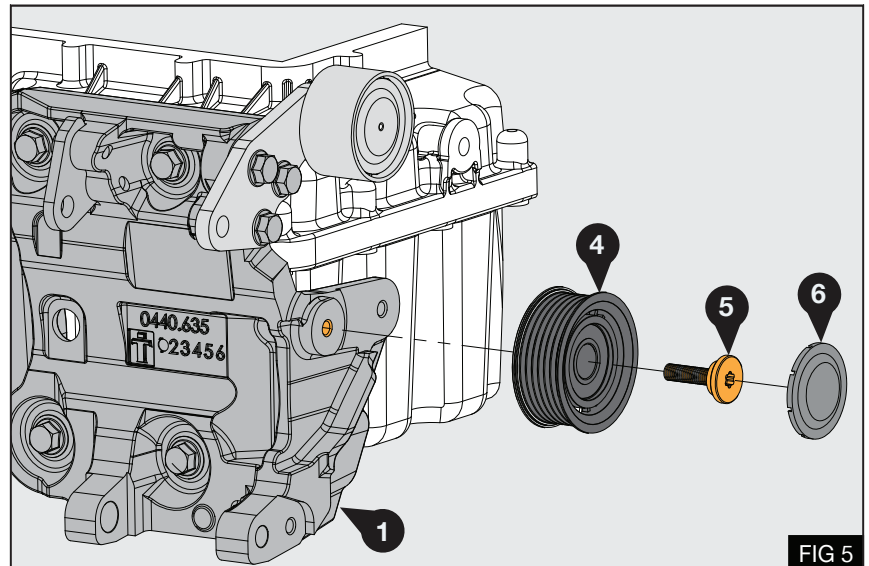

FIG 5
6. Install idle pulley (4) to bracket (1) using bolt (5) - Fig 5
- Torque bolt (5) to 22 lb.ft / 30 Nm
7. Fit pulley cap (6)